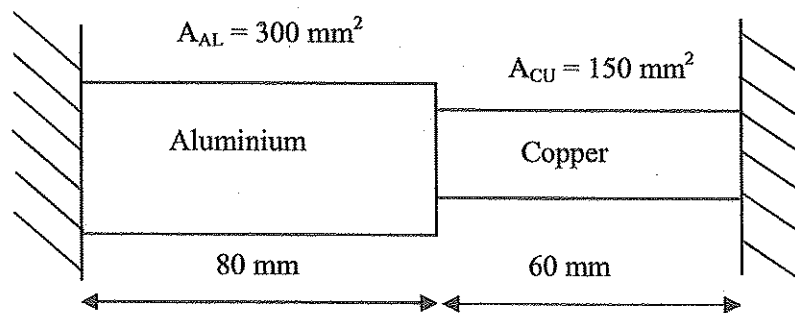

Figure 1(c) / Rajah 1(c)
- (c) A series of bar consists of copper and aluminium bar which is fixed in between two rigid walls as **Figure 1(c)**. Determine the thermal stress induced in each bar if the temperature is increased by 80°C . Given that $E_{\text{aluminium}} = 69 \text{ GN/m}^2$ and $E_{\text{copper}} = 112 \text{ GN/m}^2$, $\alpha_{\text{aluminium}} = 23 \times 10^{-6} /^{\circ}\text{C}$, $\alpha_{\text{copper}} = 17 \times 10^{-6} /^{\circ}\text{C}$.